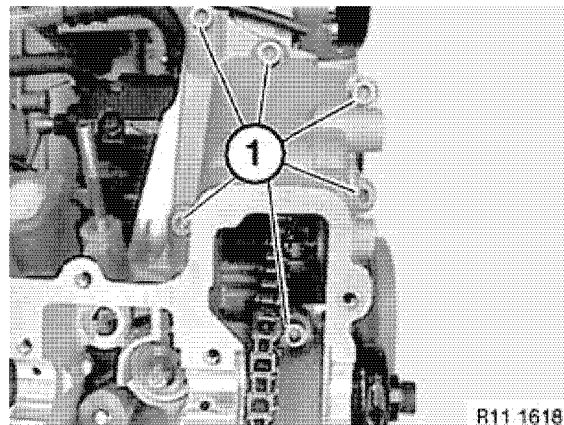

Figure 5-40
- Install the timing case cover screws (1, Figure 5-40) and tighten.